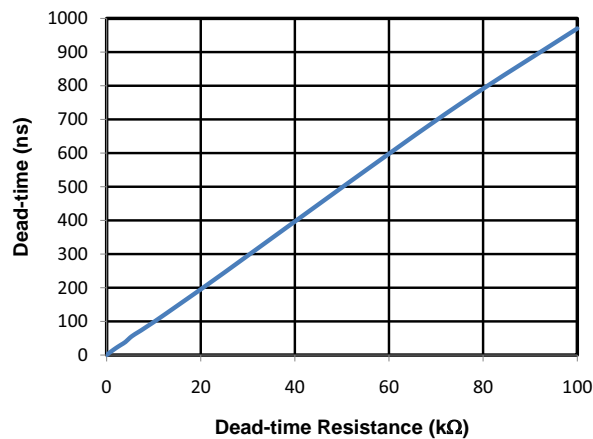

Figure 36. Dead Time vs. Resistance (R_{DT})
All high-side/low-side drivers (Si8241/4) include programmable overlap protection to prevent outputs VOA and VOB from being high at the same time. These devices also include programmable dead time, which adds a user-programmable delay between transitions of VOA and VOB. When enabled, dead time is present on all transitions, even after overlap recovery. The amount of dead time delay (DT) is programmed by a single resistor (RDT) connected from the DT input to ground per Equation 5. Minimum dead time (approximately 400 ps) can be achieved by connecting the DT pin to VDDI. Note that dead time accuracy is limited by the resistor's (R_{DT}) tolerance and temperature coefficient. See Figures 36 and 37 for additional information about dead time operation.